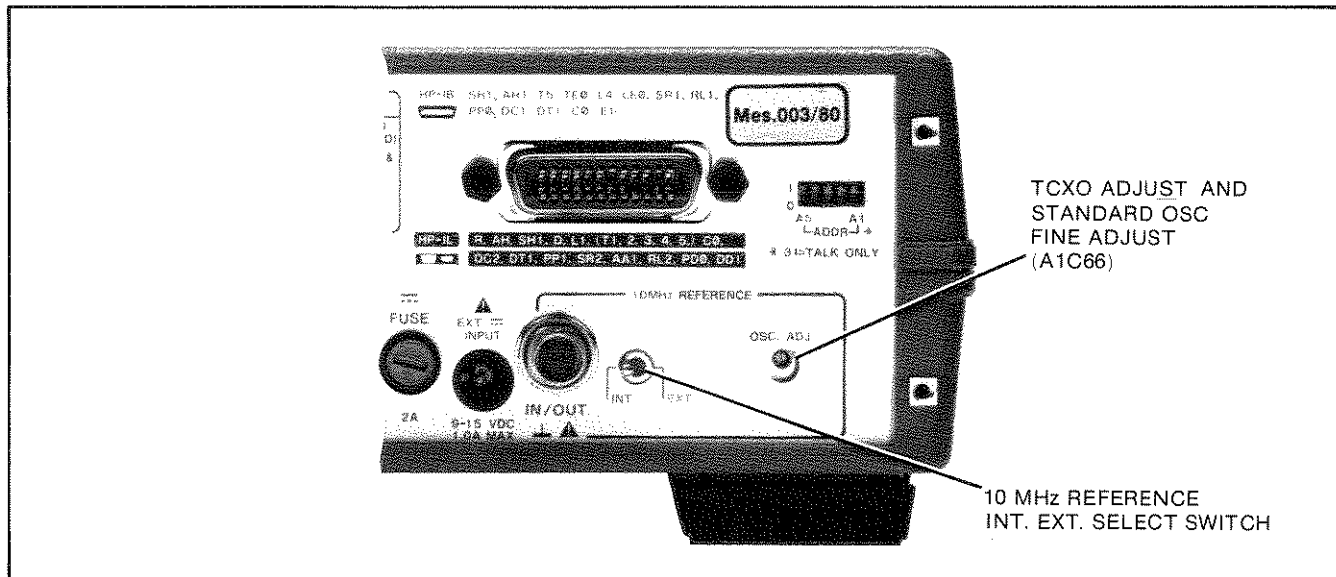

Figure 5-7. TCXO and Standard Oscillator Adjustment
c. Select INT with the 10 MHz REFERENCE IN EXT select switch on the rear of the instrument (see Figure 5-7).
d. Adjust the frequency for minimum sideways movement of the 10 MHz signal with the OSC ADJ located on the rear of the instrument (see Figure 5-7). For the Standard Oscillator, the same rear panel location is used to adjust A1C66, the standard oscillator fine adjustment capacitor. If A1C66 does not have enough range to minimize movement, adjust